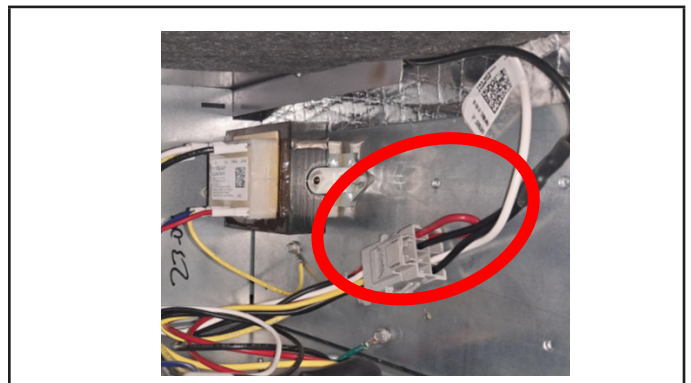

FIGURE 26. Converting Unit from 230VAC to 115VAC
- 3 - Plug the 115V power wiring harness with the gray male jack plug (found in the bag assembly) with the black and white pig tail leads. See FIGURE 26.